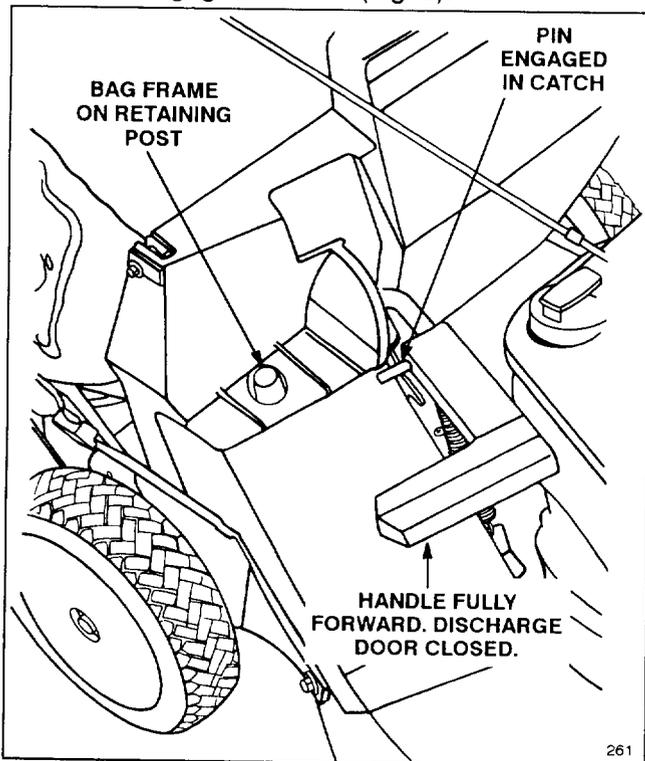

Figure 6
2. Ensure discharge door handle is fully forward and pin is engaged in catch (Fig. 6).
3. INSTALLING BAG—Slide hole in bag frame onto retaining post on discharge tunnel (Fig. 6) and set rear of bag frame onto lower handle.
5. **EMPTYING BAG**—Stop engine and wait for all moving parts to stop. Lift discharge door handle straight up and move it forward to engage the locking pin with catch (Fig. 6). Grasp bag frame handle and rear of grass bag and lift bag off mower. Gradually tip bag forward to empty clippings.